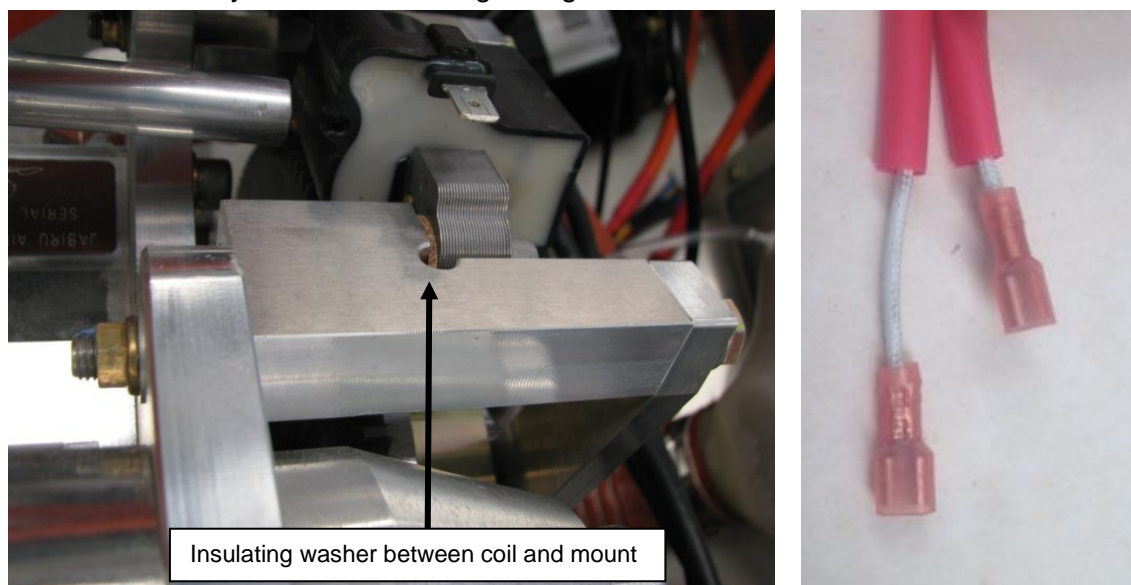

Figure 149 – Ignition Coil Insulating Washer and Stator electrical leads
- The two alternator leads must be of different lengths (at least 25mm difference) to ensure an electrical short cannot occur between the two connectors (see Figure 149 right)